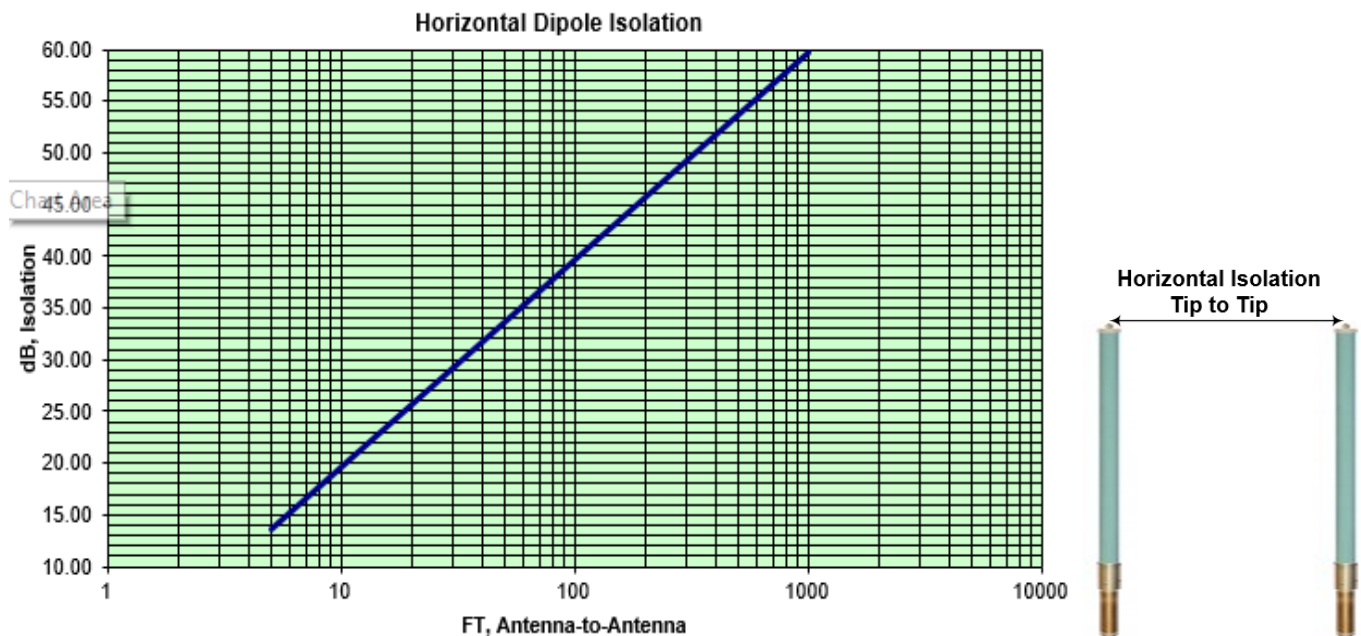

Figure 3: VHF Horizontal Isolation
- **Antenna Isolation** – Antenna isolation between the transmit antenna and receive antenna reduces both the carrier and sideband noise levels into the receiver. Antenna isolation is the most efficient means of protecting the receiver because it does not affect operation. The amount of antenna isolation delivered also determines the required amount of filter selectivity. *Figure 3* demonstrates the isolation provided for two 6 dBd gain VHF antennas mounted with horizontal (tip to tip physical separation). As can be seen in the graph, very little isolation is provided using horizontal separation without great spacing distance.